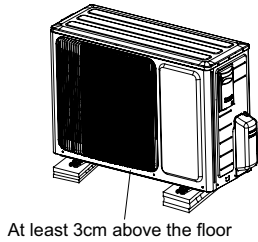

Fig.18
- (1) Take sufficient protective measures when installing the outdoor unit.
- (2) Make sure the support can withstand at least four times the unit weight.
- (3) The outdoor unit should be installed at least 3cm above the floor in order to install drain joint.(As show in Fig.18)
- (4) For the unit with cooling capacity of 2300W~5000W, 6 expansion screws are needed; for the unit with cooling capacity of 6000W~8000W, 8 expansion screws are needed; for the unit with cooling capacity of 10000W~16000W, 10 expansion screws are needed.